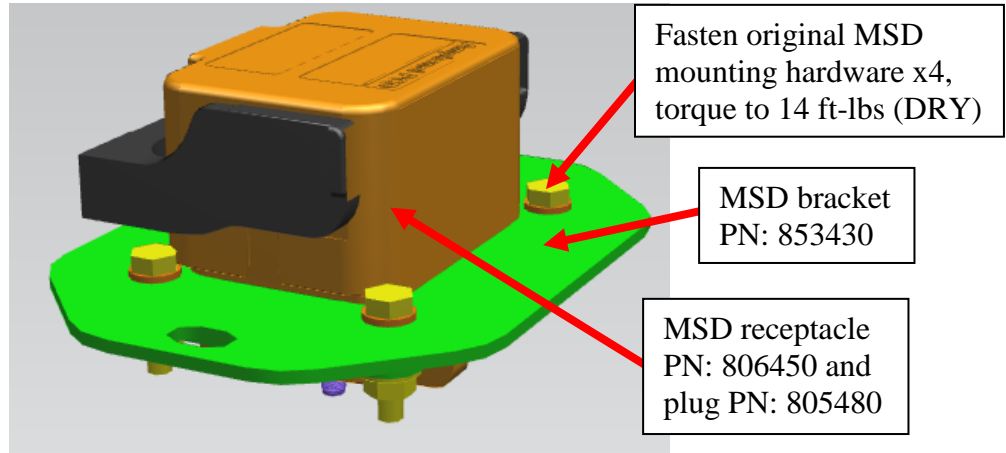

Figure 23: Rooftop ESS MSD bench assembly
3.7 Bench assemble new rooftop ESS MSD x5. See figure 23.